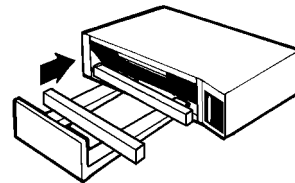

Fig. 14 Lifting of section with fork-lift truck.
- Now lift off one section at once (Fig. 14).